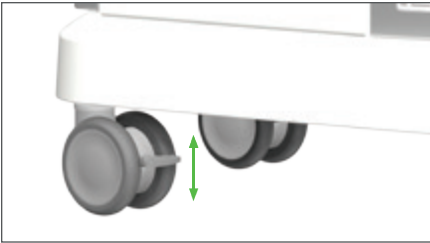

Figure 7: 4-locking breaks, press down to lock, lift up to release
- To lock the castor, depress the brake lever located at the front of the castor until it clicks. (**Figure 7**)